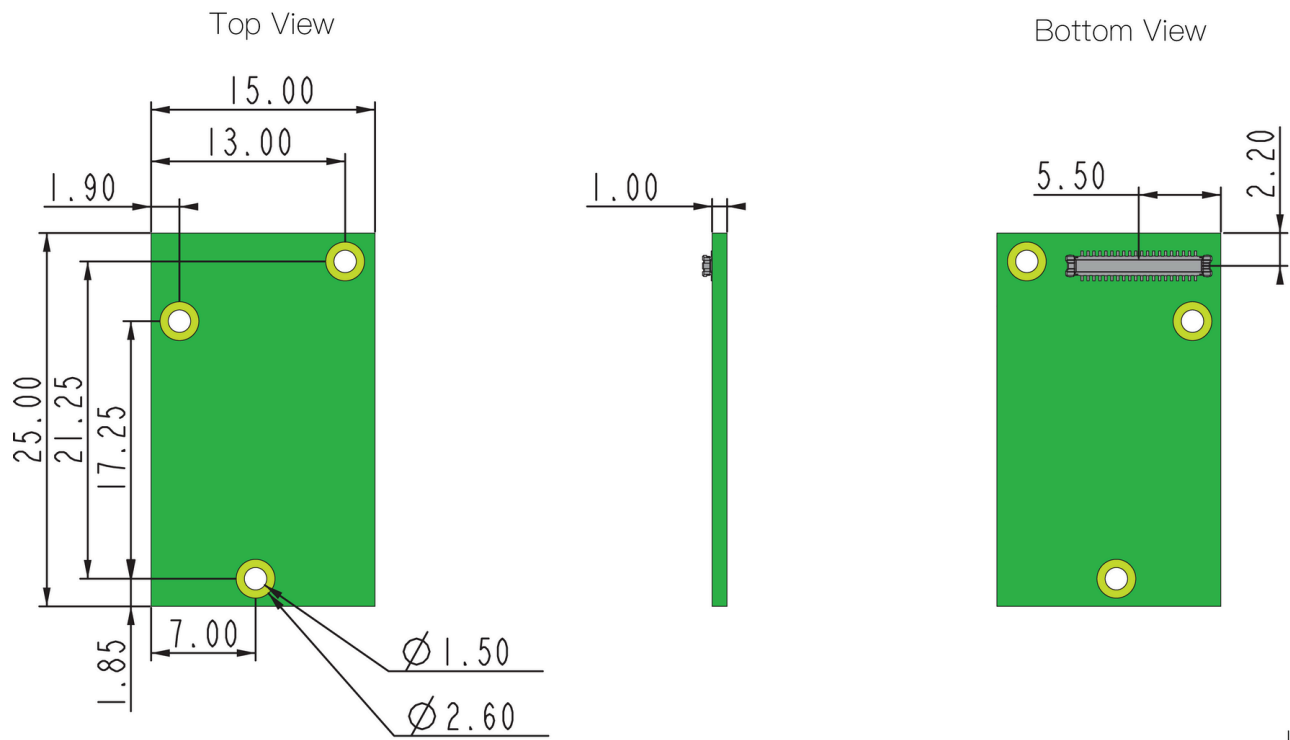

Figure 3: RAK12017 WisBlock IR Detection Module Dimensions
**Figure 3** shows the dimensions and the mechanical drawing of the RAK12017 module.